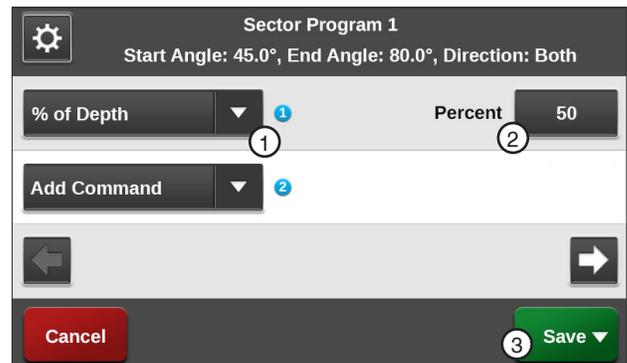

Figure 151-1 1. % of Depth 2. Percent 3. Save
- b) Use the **Next** and **Previous** buttons to scroll through the commands list and choose **% of Depth**. Refer to Figure 151-1.